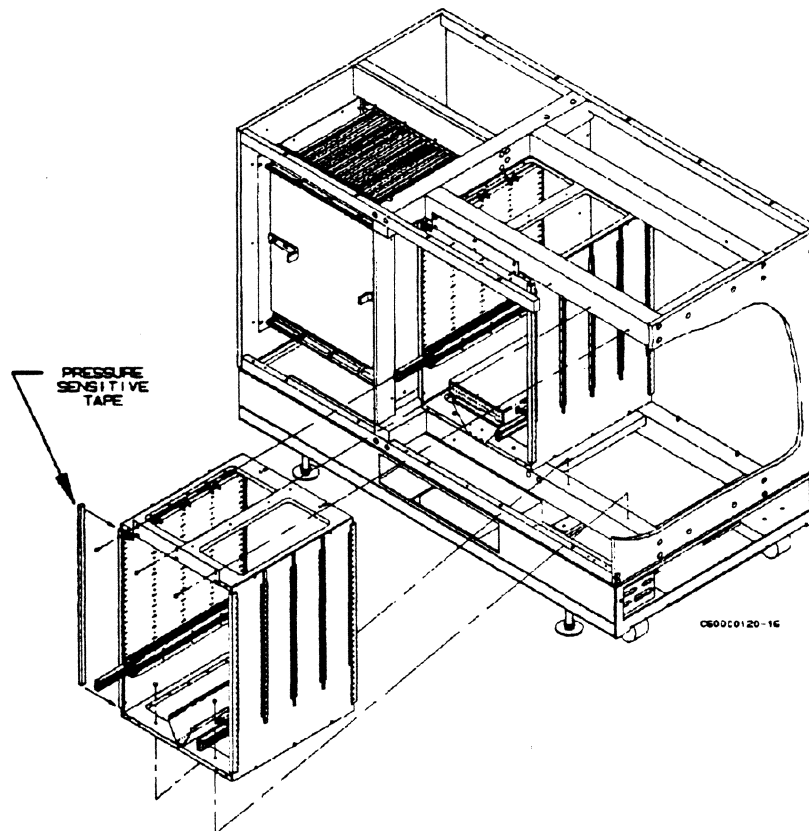

Figure 3-18. CP-1 Cage Mounting
- ___ 2. Install pressure-sensitive tape to side of SIBC as shown in figure 3-18.